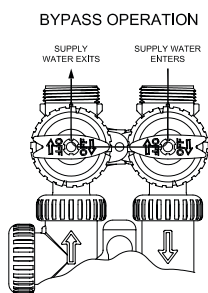

FIGURE 1
- Place the bypass valve in "BYPASS OPERATION". (Figure 1)